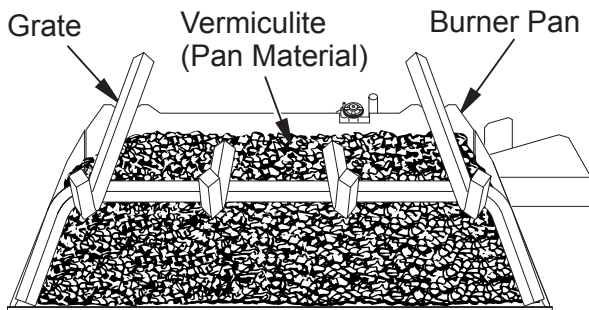

Figure 19 - Fill Entire Burner Pan with Vermiculite (BRT2332TEN/BRT2332TEN Models Shown)
1. Open the bag(s) of vermiculite and fill the entire burner pan until the burner tube is completely covered (see Figure 19).